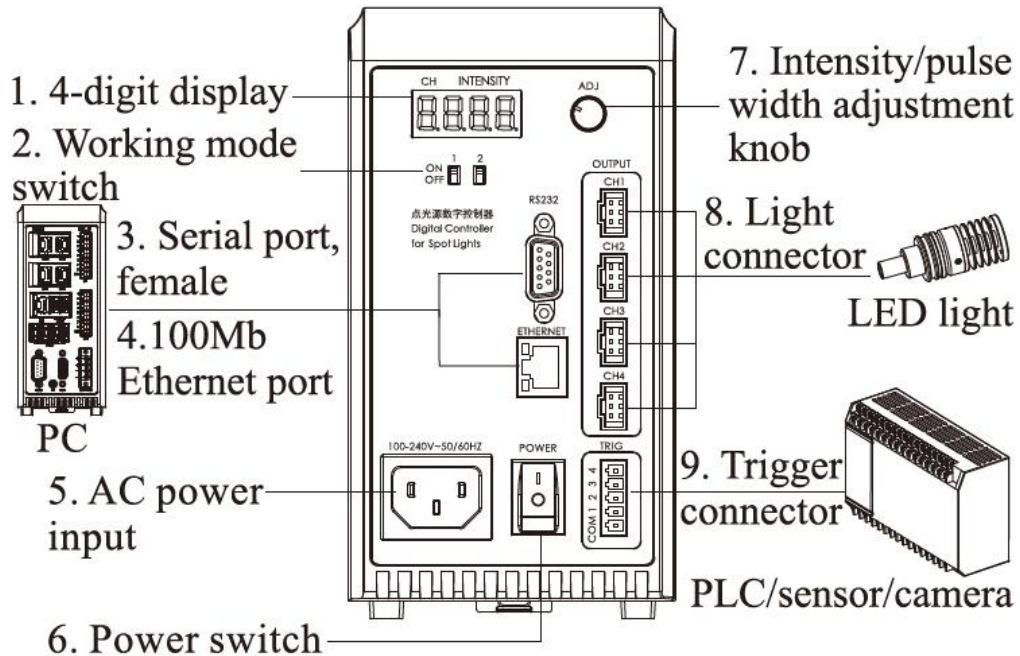

Figure 2.1 Panel Description Diagram
Step 1 Connect the light source to the controller (refer to Figure 2.1)